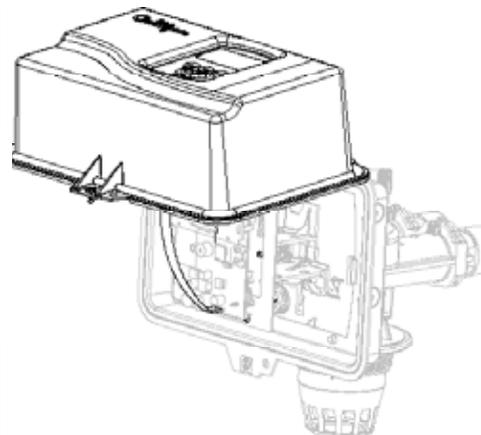

Figure 8. Circuit board.
2. Hinge the front cover upwards. (See Figure 8). Do not remove the front cover yet.